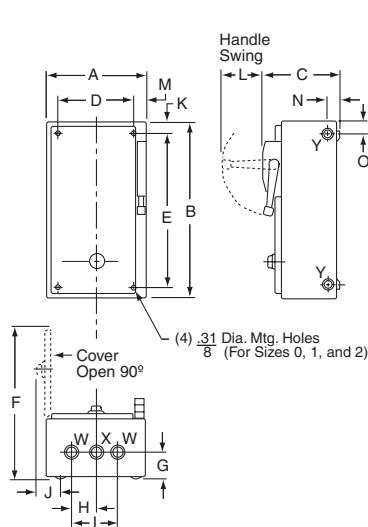

Figure 1: NEMA 1 Enclosure (Sizes 0–2)
**Table 16.155: NEMA 4 & 4X Stainless Enclosure Figure 1**